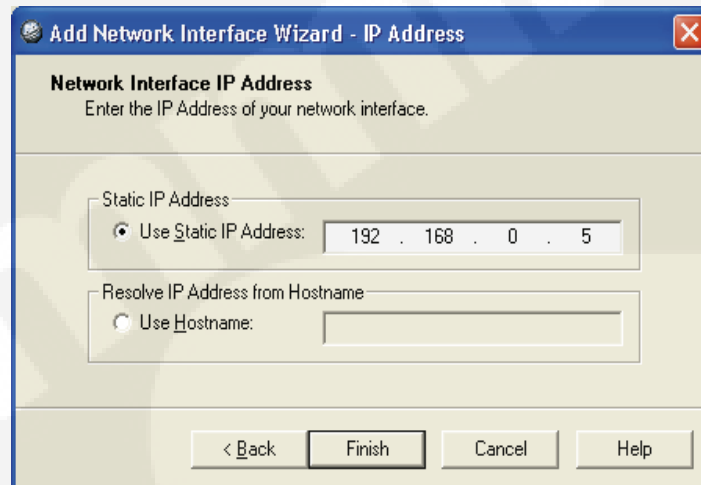

FIGURE 4-20. ENTERING THE IP ADDRESS
8. Enter the PowerCommand iWatch 100 IP Address, 192.168.0.5, or the customer defined address previously assigned to the PowerCommand iWatch 100 in HyperTerminal, then click **Finish** (see Figure 4-20).